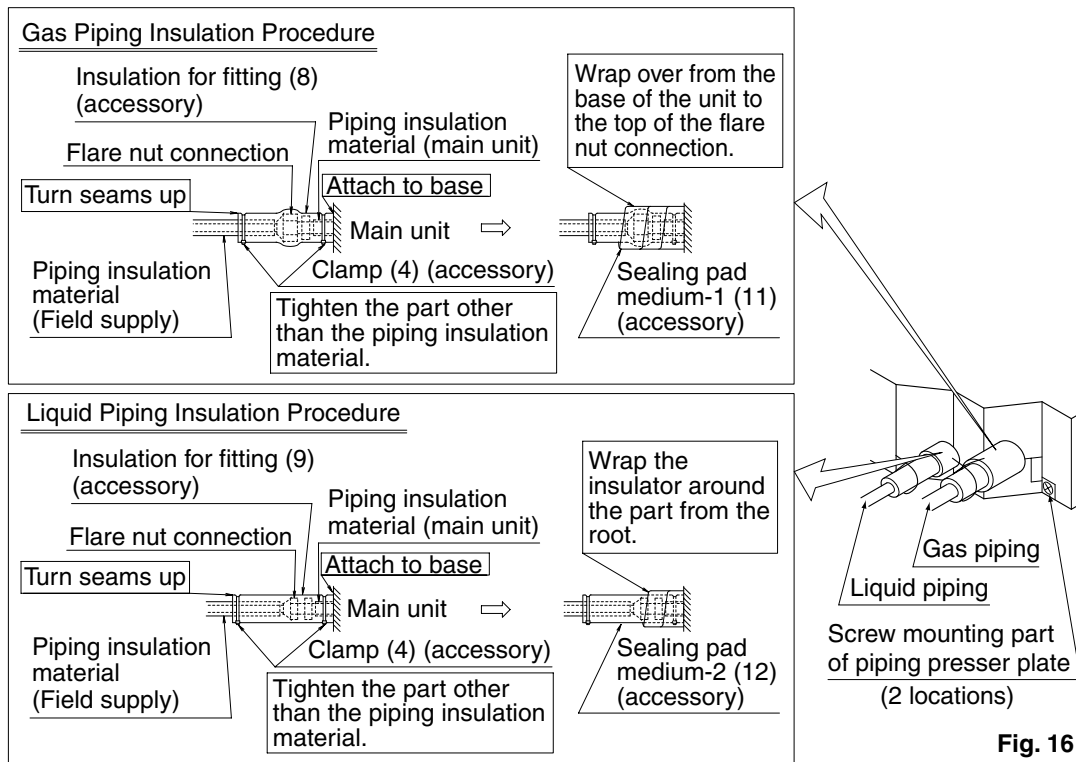

Fig. 16
- Make absolutely sure to execute heat insulation works on the pipe-connecting section after checking gas leakage by thoroughly studying the following figure and using the attached heat insulating materials for fitting (8) and (9). (Fasten both ends with the clamps (4).) (Refer to Fig. 16)
- Wrap the sealing pad (11) only around the insulation for the joints on the gas piping side. (Refer to Fig. 16)